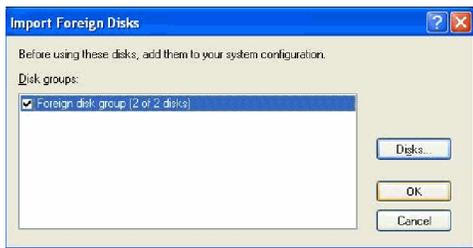

Figure 16: Import Foreign Disks dialog box
3. In the Import Foreign Disks dialog box, ensure that the disk group is checked and select OK. See Figure 16.